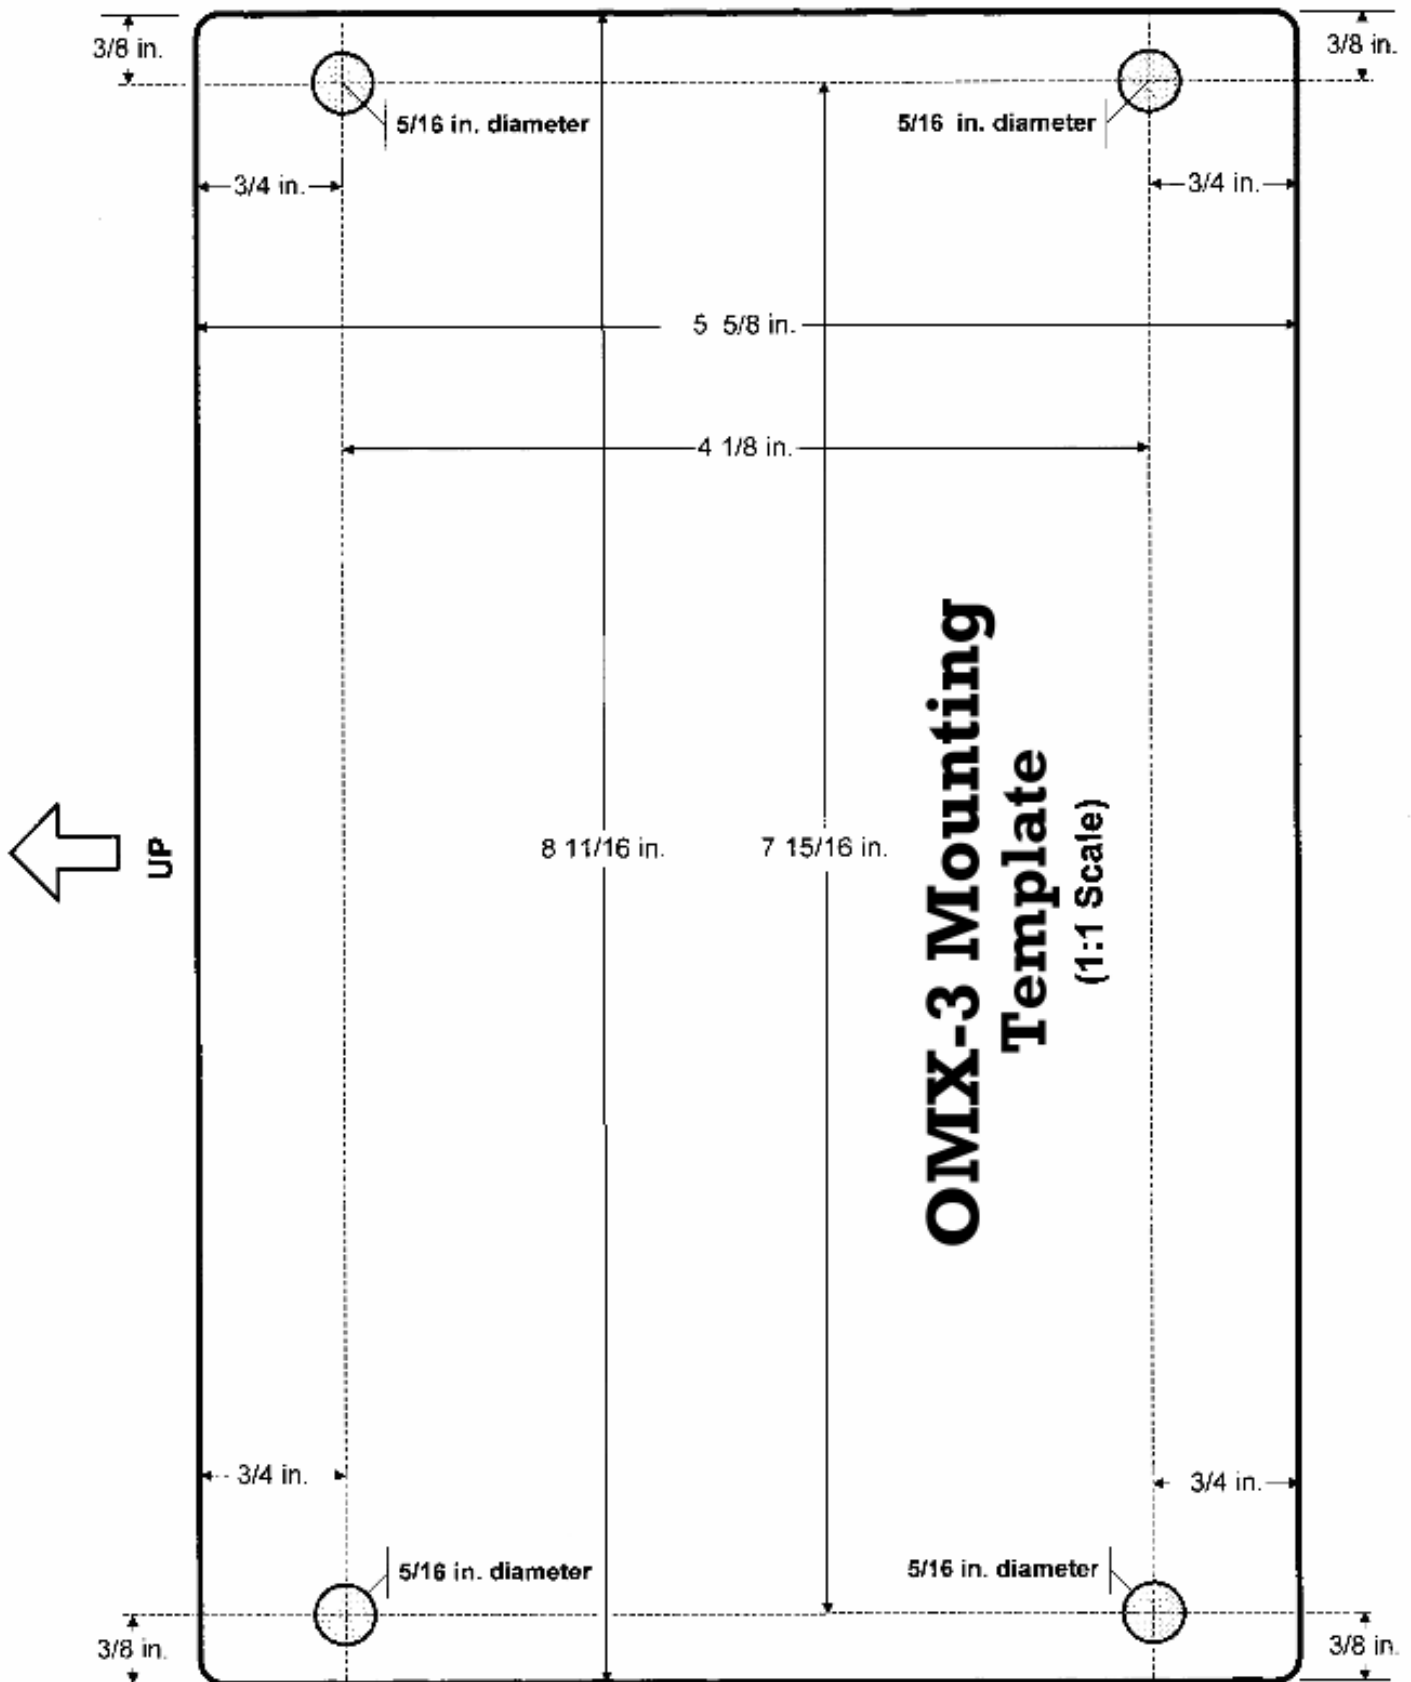

Figure 1.1 Mounting Template
- Use the Figure 1.1 Mounting Template to locate the mounting holes.